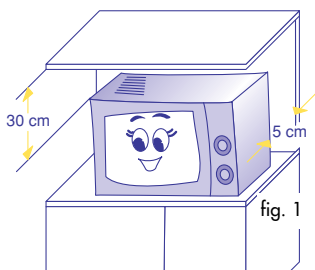

fig. 1
- 4) After having placed the oven on its work level, make sure that there is still a free space of at least 5 cm. between the oven's surfaces and the side as well as back walls, and a free space of at least 30 cm. above the oven (see Fig. 1). Also check to make sure the feed cord is not touching the appliance's rear wall, because the wall itself can get very hot while the grill is being used.